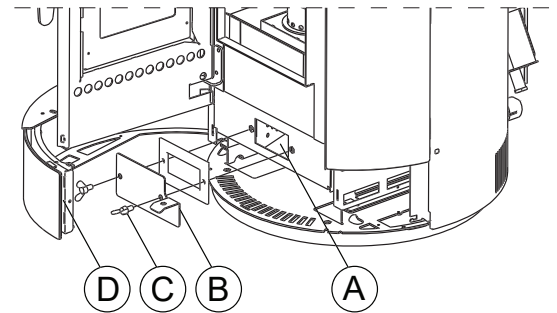

Fig. 6.1.2
- For easy access to the fan (A), just remove the lid (D), the cap (B) and relevant gasket, then turn the two screws (C) (Fig. 6.1.2).